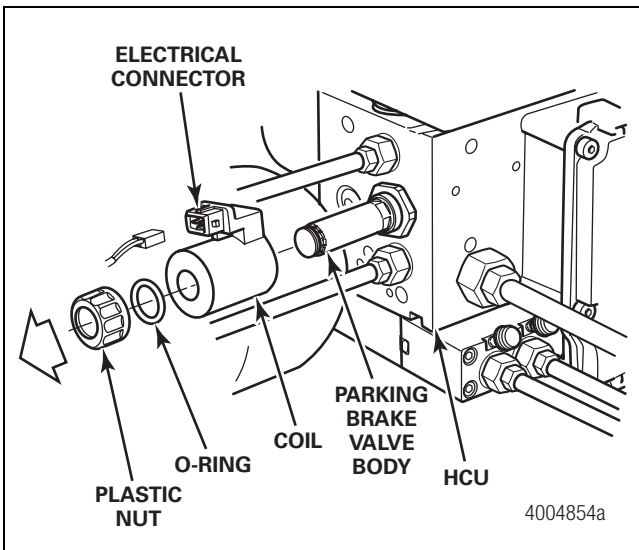

Figure 4.54
9. Unscrew the black plastic nut by hand from the pressure supply valve. Remove the coil and O-ring. Figure 4.54.